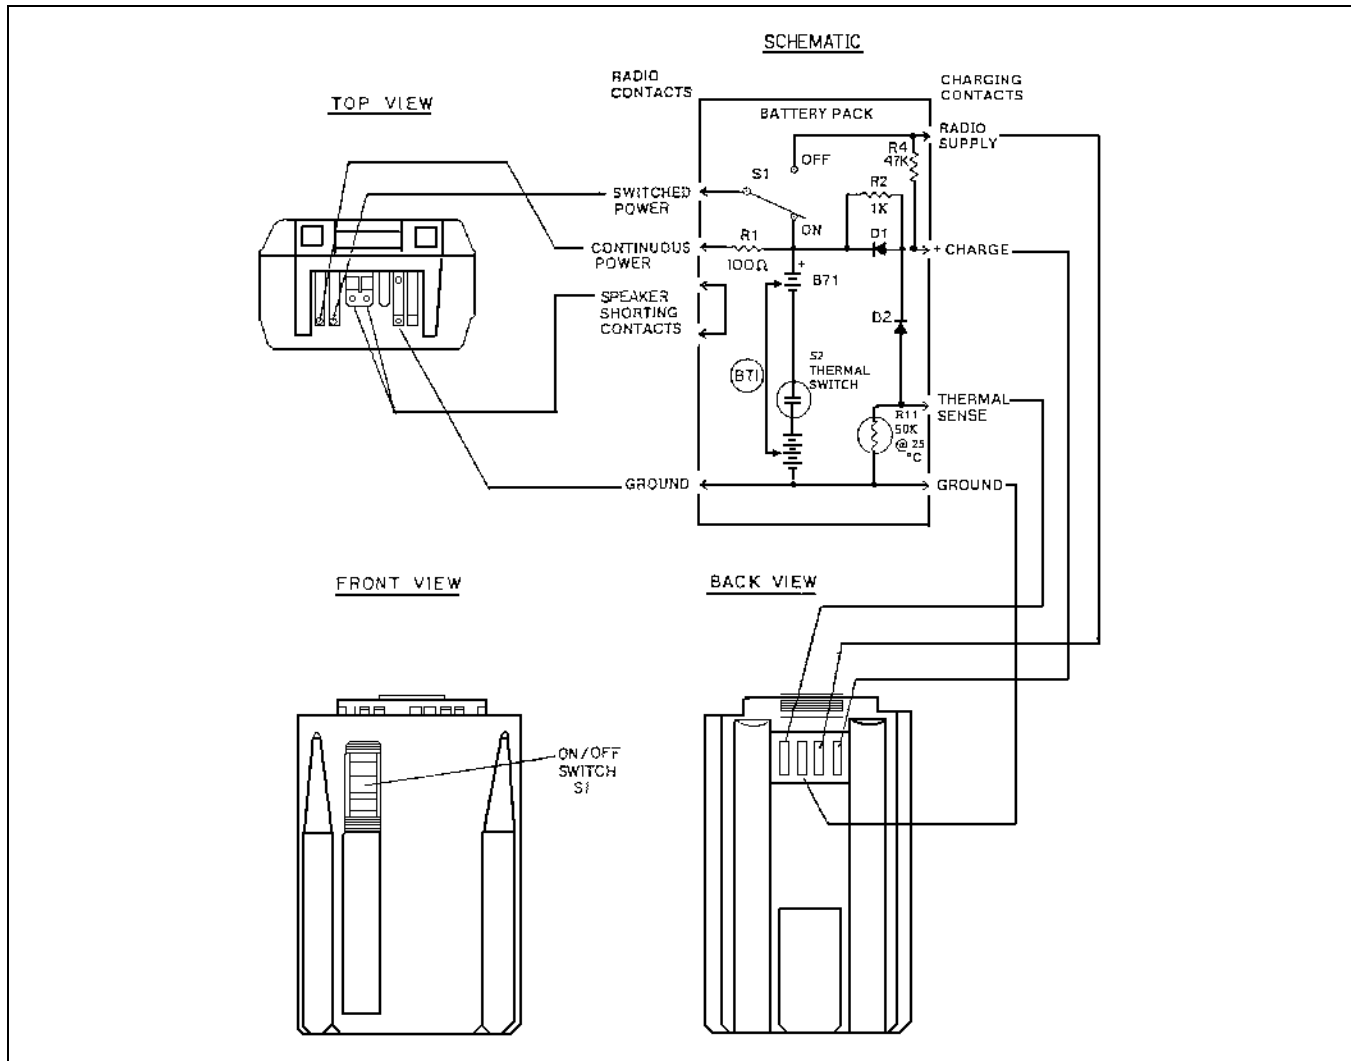

Figure 14 - Battery Packs
Chargers are available with nominal charge times of 1 (rapid) and 14 (standard) hours. Combinations include single (1) and multi (5) position, standard and rapid charge units. The chargers utilize an internal thermistor in the battery pack to sense temperature and automatically control charge rate of the battery. This allows for a maximum charge rate without overheating the battery pack. All battery packs can be charged in less than 1 1/2 hours with the rapid type chargers. Nominal full charge time in a standard charger is 14 hours. Figure 14 outlines a typical battery pack.